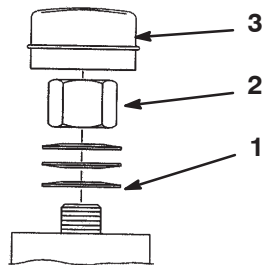

Figure 52
3. Remove dust cap from caster and tighten lock nut (Fig. 52).
4. Tighten until spring washers are flat and then back off a 1/4 turn to properly set the pre-load on the bearings (Fig. 52).
Important Make sure spring washers are installed correctly as shown in figure 52.
5. Install the dust cap (Fig. 52).